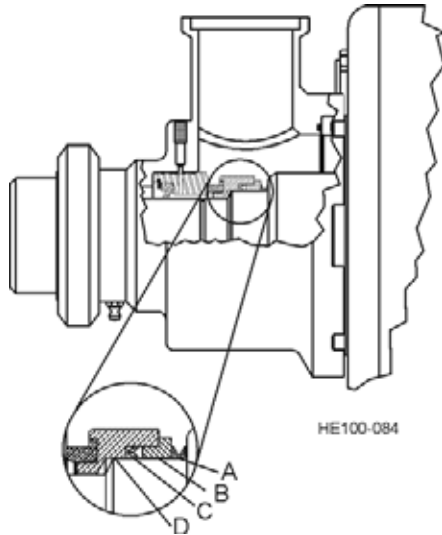

Figure 50 - Orientation of Seal Components
1. Place wavy washer spring (See Figure 50, Item A) on shaft.
2. Install seal back-up ring. (See Figure 50, Item B).
3. Install U cup seal with opening toward product side, as shown in Figure 50, Item C.
4. Place seal body (See Figure 50, Item D) on shaft, aligning slots with seal drive pins.